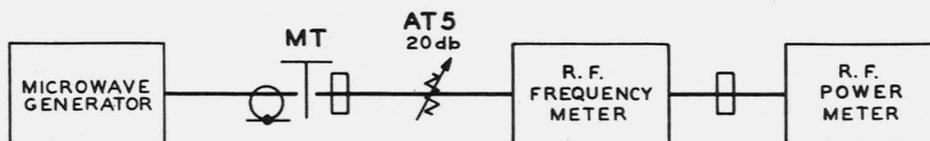

Fig. 25 - Microwave Generator Test Arrangement
(1) Connect the test equipment as shown in Fig. 25 with AT5 set at 20 db.